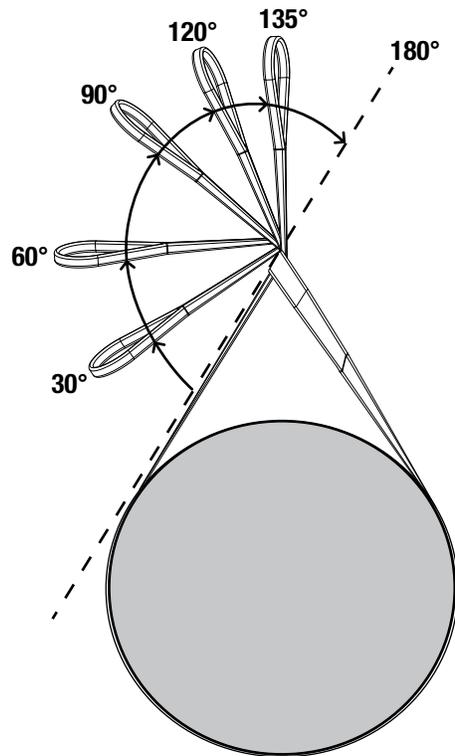

Figure 3. Choke Angle
3. If the choke angle (Figure 3) is 120 degrees or less, the lifting strength of the slings must be de-rated as shown in Table 1, in accordance with ASME Standard B30.9.